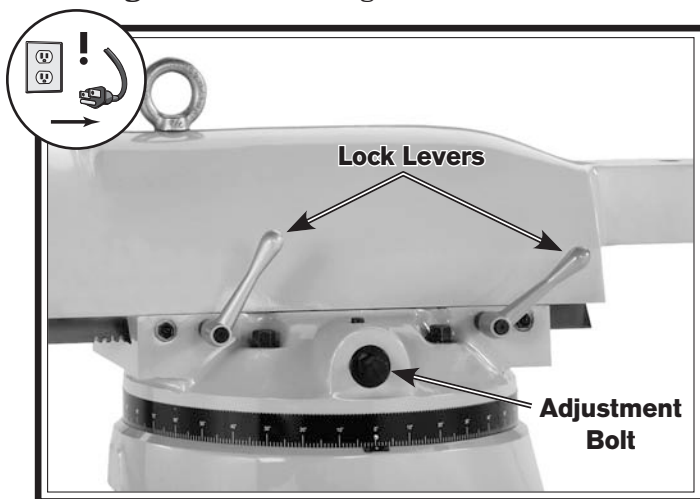

Figure 29. Ram back-and-forth movement controls.
2. Loosen the two lock levers shown in **Figure 29** on the right side of the ram.